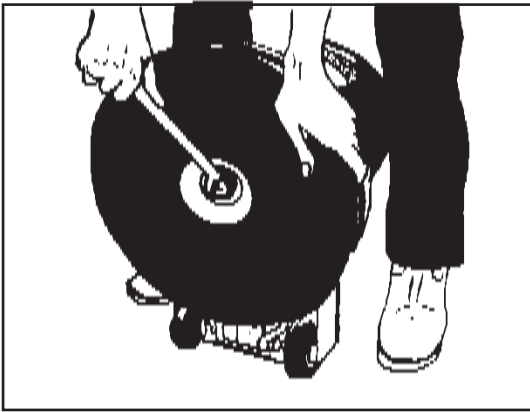

Figure 2
5. Using a 7/8 wrench, remove the nut and the washer that hold the paper holder. See figure 2.